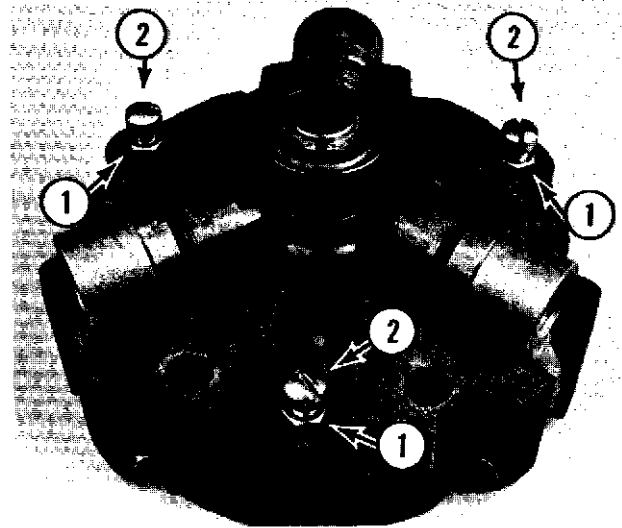

Fig. 9-7
- (1) Remove the clutch as described in "Removal of Clutch As A Unit" except the clutch should not be engaged.
- (2) Loosen the locknuts (1, Fig. 9-7) and back out the three release spring screws (2, Fig. 9-7).